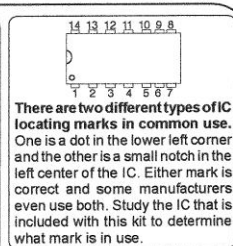

Figure 3
2. Install IC socket. Observe locating mark on IC (see Figure 3 for IC locating marks info) and cathode side on LEDs when installing these components. Refer to Figure 2 if you need help locating the cathode of the LEDs. Install resistors per Resistor Color Code. Install P1, S1 and battery snap.